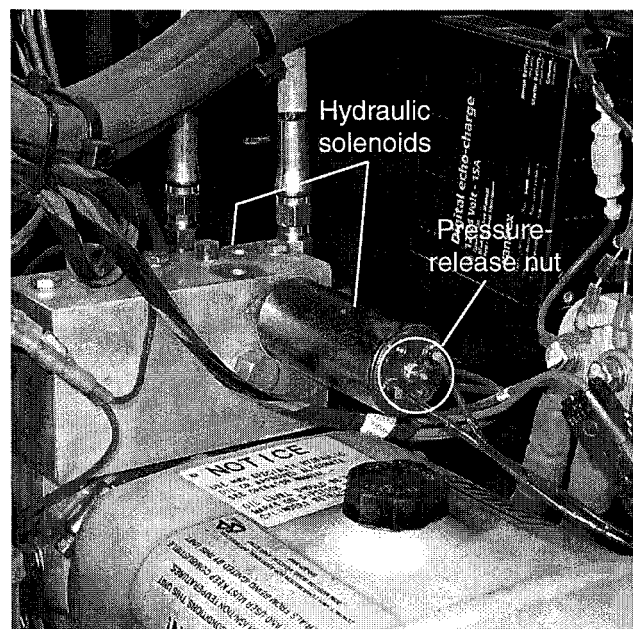

Figure 5.8
- a Locate the HWH solenoids, located in the last bay on the passenger side (**Figure 5.8**).